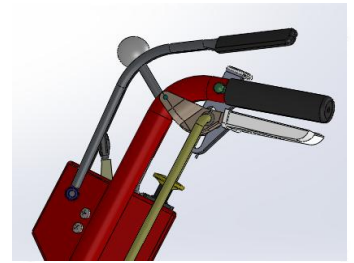

Figure 1
1. Make sure that the traction control lever are in the neutral position (figure 1)